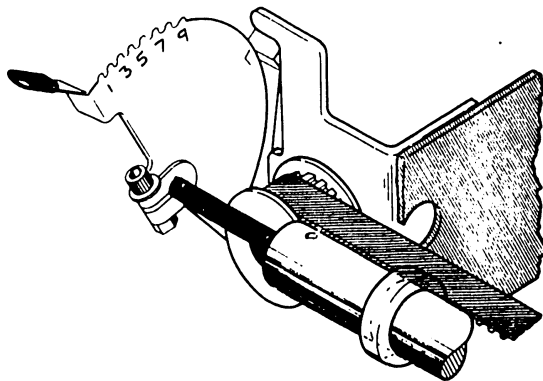

FIGURE 2-4 HEAD ADJUSTMENT/FORM THICKNESS CONTROL
- 2) Raise the cover of the printer and find the Print Head and the Forms Thickness Lever. (See Figure 2-4)
- 2) Raise the cover of the printer and find the Form-Thickness Lever. Pull the lever completely backward to the "L" (See Figure 2-4) position so that the Print Head is removed from the paper.
- 3) HEAD-ADJUSTMENT ARM: The head-adjustment arm adjusts the distance between the print-head bearing and the striker bar. The arm is adjusted for the best print quality (position 1 to 9). To load a new ribbon cartridge, move the Head Adjustment Arm to position L. (See Figure 2-4).